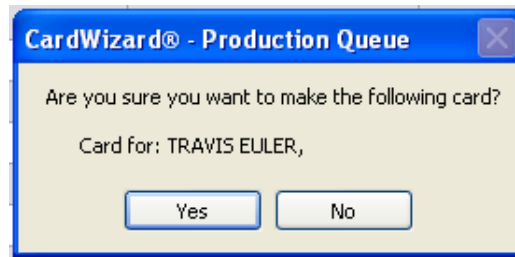

Figure 29 – Make Card Dialog Box
- B. Highlight a card by clicking on it, and then click the **Make Card** button. Otherwise, click **Cancel**. The dialogue box in Figure 29 will appear.